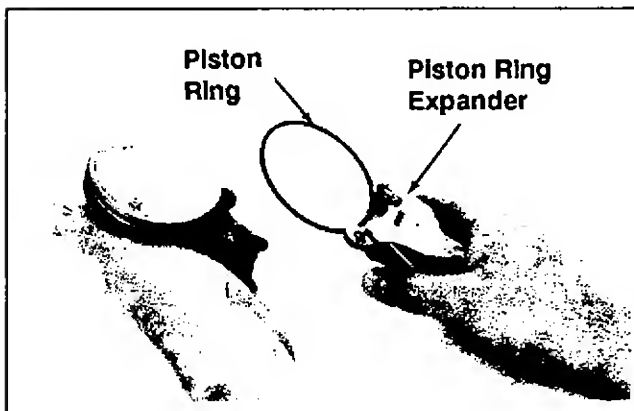

Figure 9-32. Removing Piston Rings.
1. Remove the top and center compression rings using a ring expander tool. See Figure 9-32.